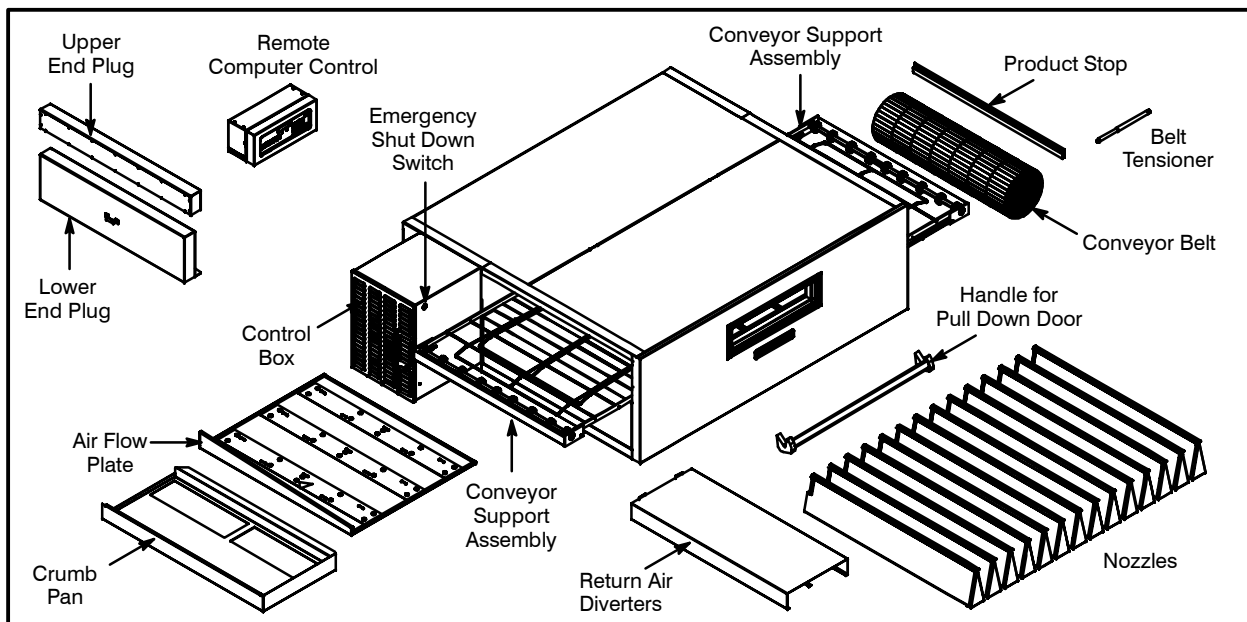

Figure 2
The oven can now be moved to the installation site. Check the following list with Figure 2 on page 3 to be sure all items were received.
** not shown in Figure 2.*